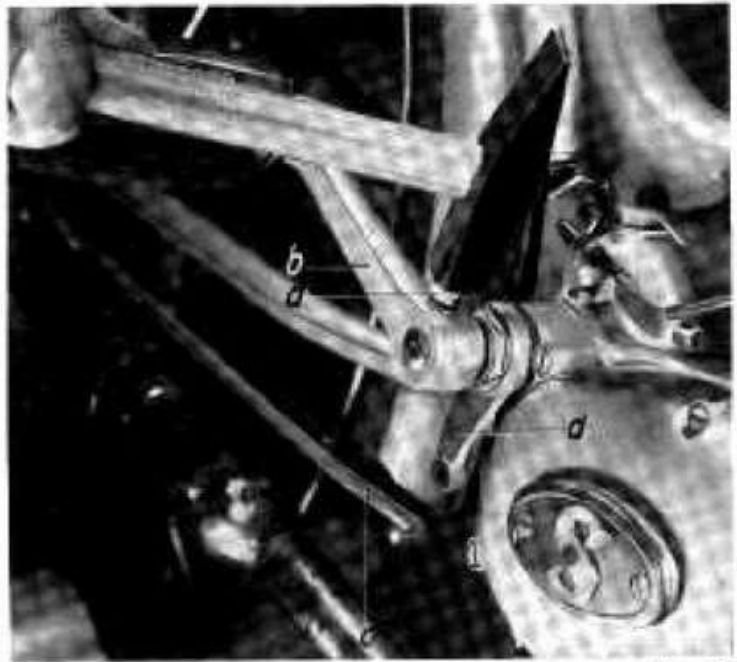

Fig. 10
- 2.7** Remove the pedals. Loosen the nut (a) on both pedals, and screw back slightly (screw spanner SW 10). Loosen both cotters by tapping gently with a hammer, remove both nuts, washer and cotters. Subsequently remove left and right pedals (b). Disconnect brake-rod linkage (c) at the engine brake lever (d) after loosening the split pin. (Fig. 10)